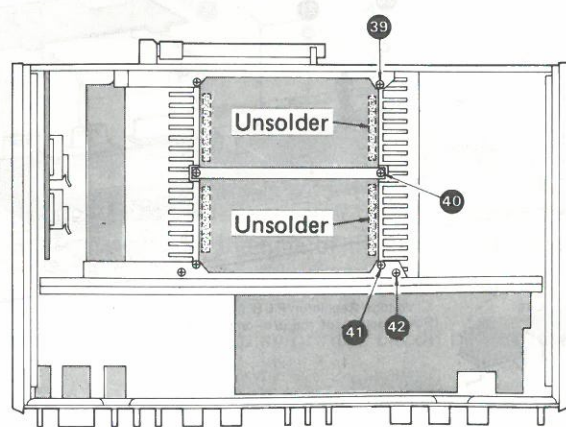

Fig. 9
2. Remove the 4 setscrews (Fig. 9 : 39 ~ 42) of the heat sink.
5. Unsolder the power transistor. (Fig. 9)